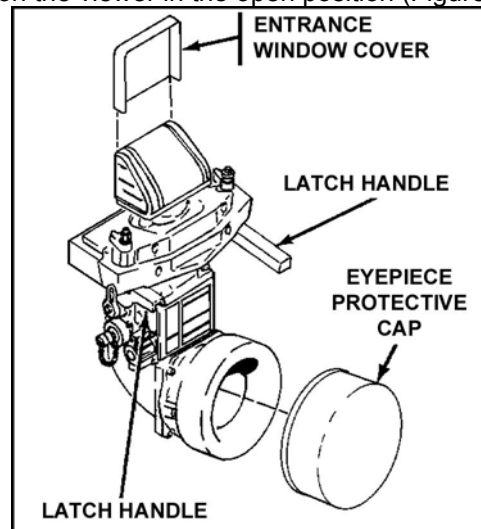

Figure 1. Night viewer.
- d. Set two latch handles on the viewer in the open position (Figure 1).